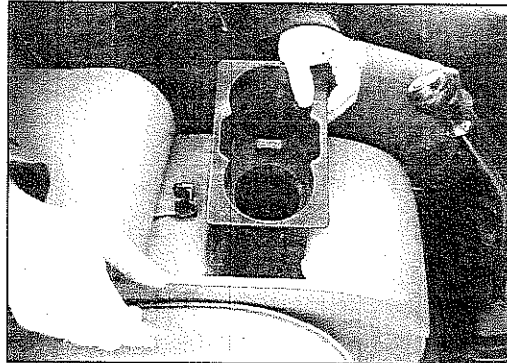

Figure 7
12. Remove the Cup Holder to expose the inner front section (Figure 7).